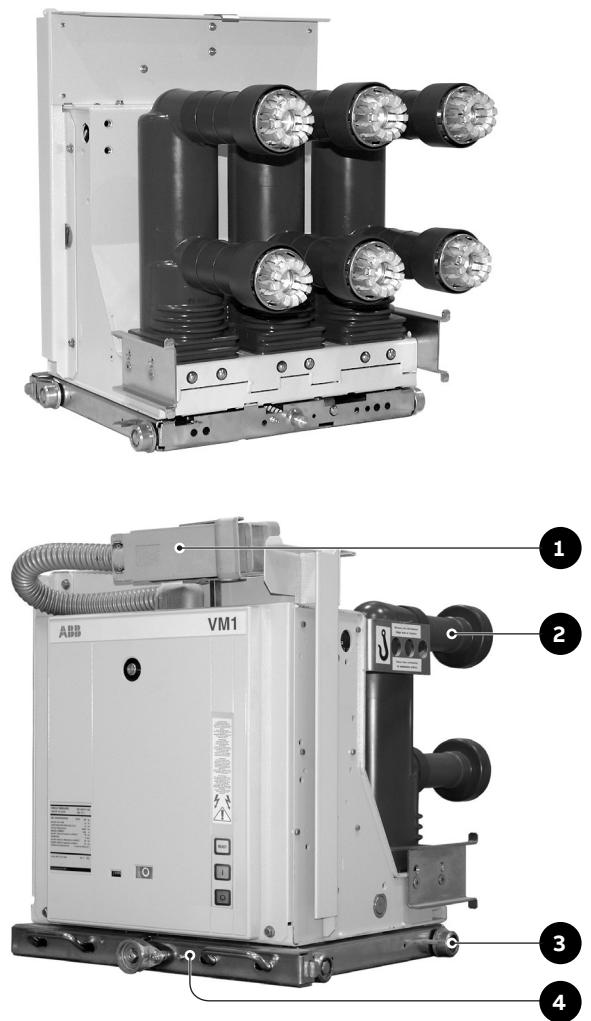

Fig. 8
The withdrawable truck (4) (fig. 8), either manual or motorised, consists of a steel sheet structure with wheels (3), on which the circuit breaker with the relative auxiliary components, the isolating contacts (2) for electrical connection with the switchgear and the multi-pole connector (1) for connection of the circuit breaker auxiliary circuits are installed.